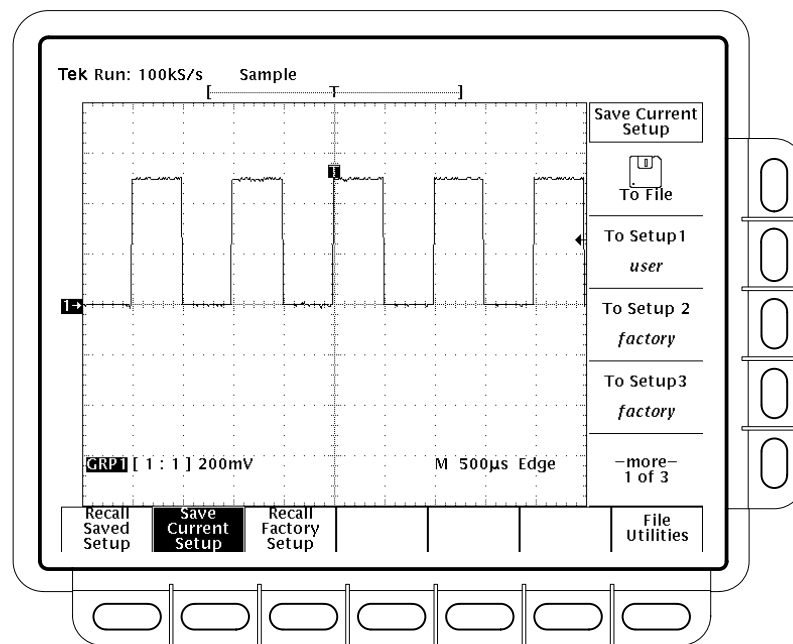

Figure 3-51: Save/Recall Setup Menu
1. Press Save/Recall **SETUP** → **Save Current Setup** (main). (See Figure 3-51.)
2. Press **To Setup 1, To Setup 2, ... To Setup 10, or To Setup 10** (side) to store the current selection in one of the ten internal storage locations available. (See Figure 3-51.) Press the button corresponding to your selection to store the current setup in that location.